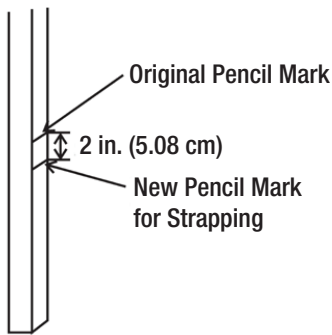

Fig. 3
5. Measure 2 in. (5.08 cm) below the marked height and re-mark on the studs the location of the 1 in. x 4 in. (2.54 x 10.16 cm) wooden strapping needed to rest the rim of the tub, as shown in Fig. 3.